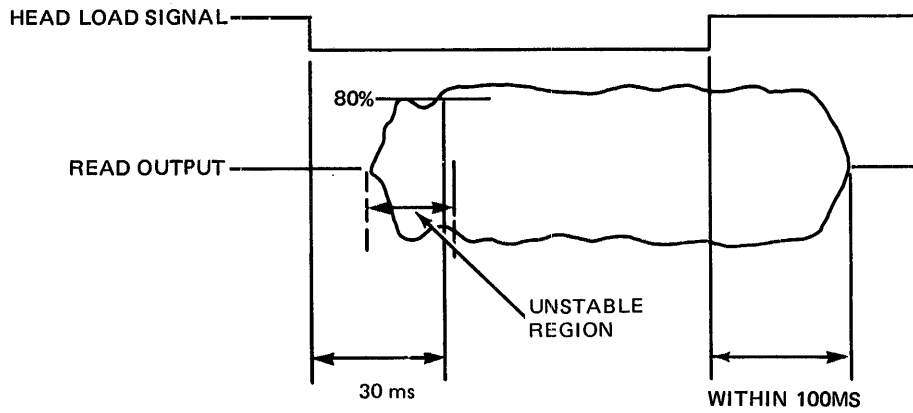

Figure 5-8 Head Load Waveform
- c. If the unstable area of the waveform is not within the specifications shown in Figure 5-8, replace the carriage assembly.